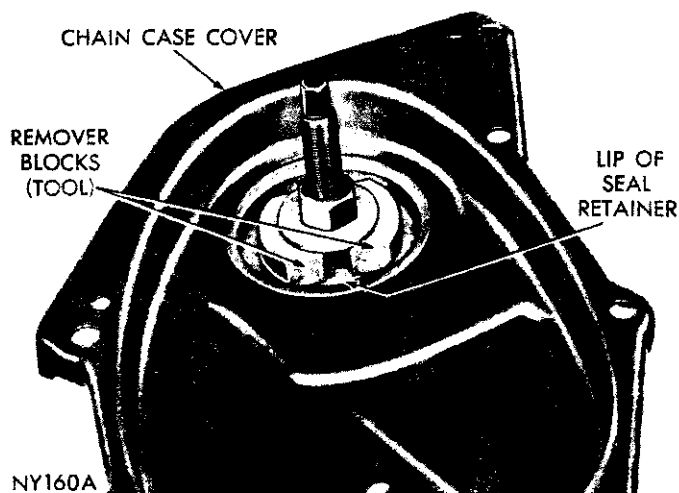
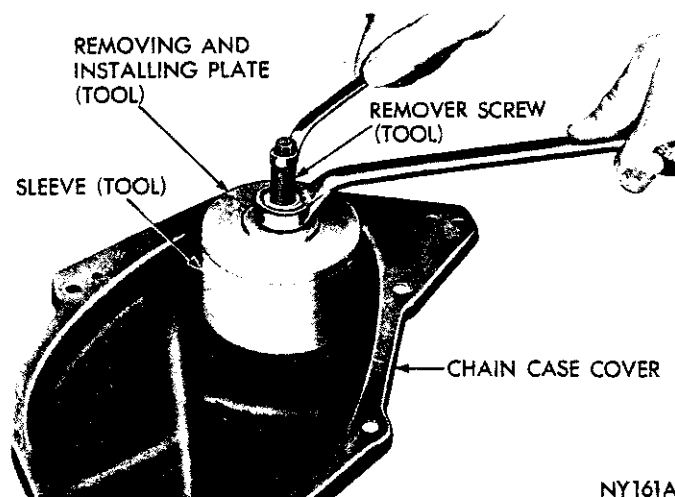
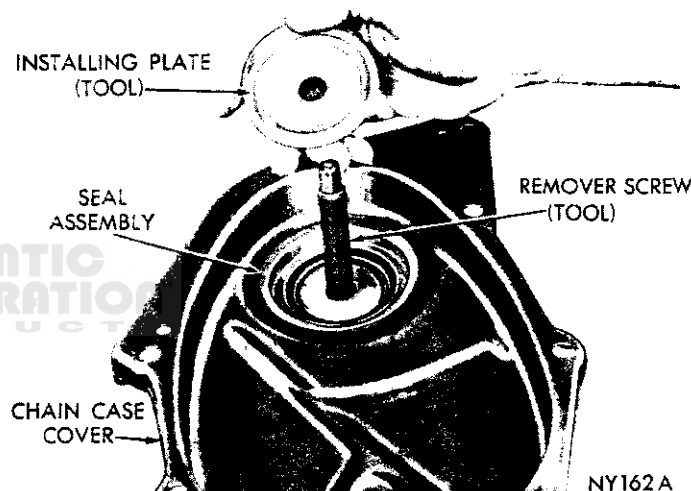

Fig. 23—Remover Blocks Expanded to Puller Position
Fig. 24—Removing Oil Seal
Fig. 25—Positioning Installer Plate
(1) Position remover screw of Tool C-3506 through case cover, the inside of case cover up. Position remover blocks directly opposite each other, and force angular lip between the neoprene and flange of seal retainer.
(2) Place washer and nut on the remover screw. Tighten nut forcing the blocks into the gap to a point of distorting the seal retainer lip (Fig. 23). **Remover is only positioned at this point.**
(3) Place sleeve over the retainer and install the removing and installing plate into the sleeve.
(4) Place flat washer and nut on remover screw. Hold center screw and tighten lock nut to remove seal (Fig. 24).
(5) Insert remover screw through the removing and installing plate so the thin shoulder will be facing up.
(6) Insert the remover screw with the plate through the seal opening (inside of chain case cover facing up).
(7) Place the seal in cover opening, with neoprene down. Place seal installing plate into the new seal, with the protective recess toward lip of seal retainer (Fig. 25).